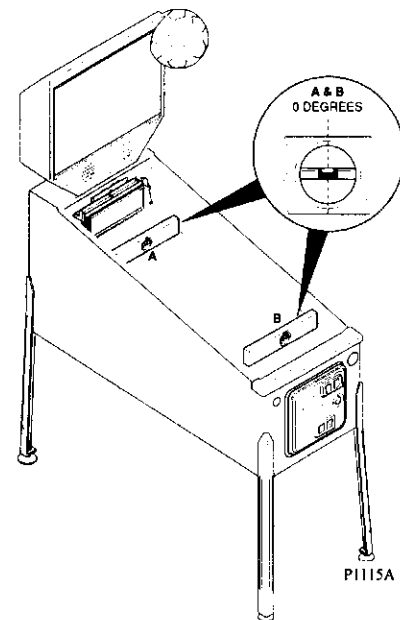

FIGURE 8: CABINET LEVELING
15) Place a level in position "A" on the playfield (see Figure 8). Adjust the rear leg levelers, as required, to obtain zero degree (0°) balance. Move the level to position "B" and repeat front & rear adjustments until cabinet appears level. **DO NOT** tighten leveler nuts firmly at this stage; an additional adjustment is required.